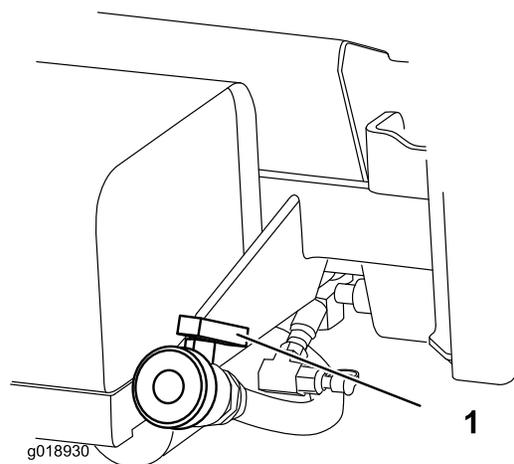

Figure 22
2. Locate the tank drain valve on the rear of the machine (Figure 22).